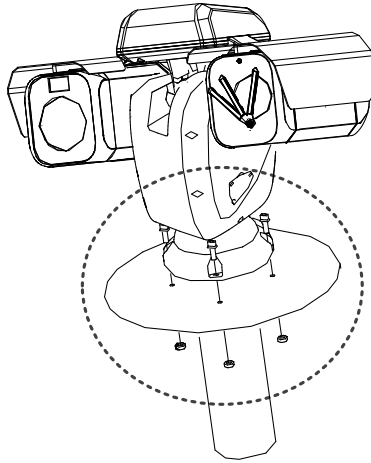

Figure 3-5 Install the Positioning System
2. Fix the positioning system onto the bracket base, as shown in Figure 3-5.